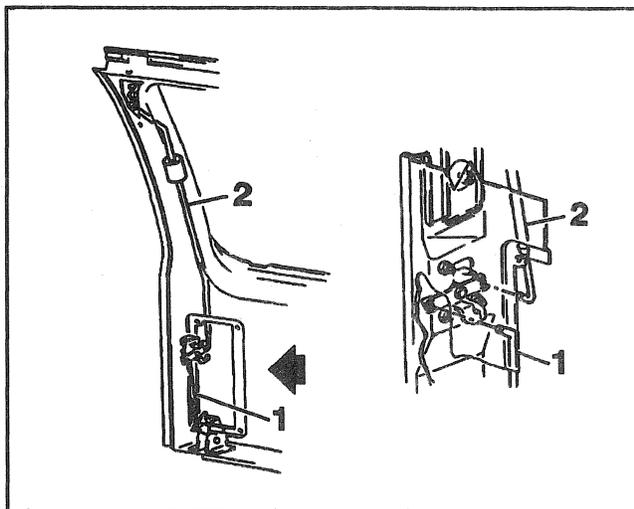

Figure 90—Rear Cargo Door Latch Control Rods
Remove or Disconnect (Figures 90 and 91)
4. Lower latch control rod from control handle clip (Figure 90).
5. Upper latch control rod from control handle clip (Figure 90).
Install or Connect (Figures 90 and 91)
3. Upper latch control rod from control handle clip (Figure 90).